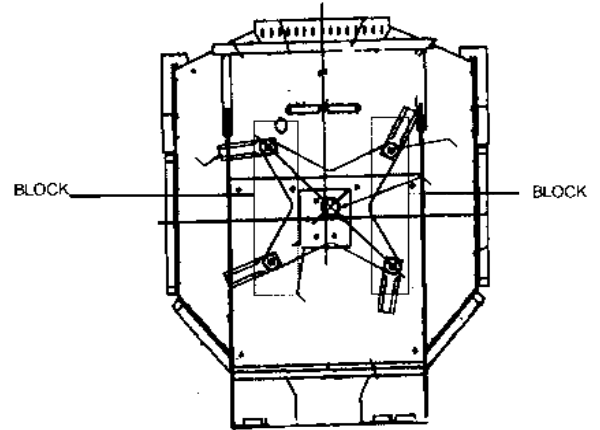

Figure 2
- d. Once the blade carrier is loose on the spindle shaft, remove the supporting strut and set the entire machine on the floor. Lift open the front door and lay it back on the machine deck. Place wood 4x4 or other material to block up the blade carrier as shown in Fig. 2. Reach in the front door opening and remove the castle nut. As you remove the castle nut, the blade carrier should lower and rest on the support blocks. Once the castle nut is removed start your loader, lift the DL-cutter and back up a few feet to gain access to the blade carrier, which is sitting on the support blocks.